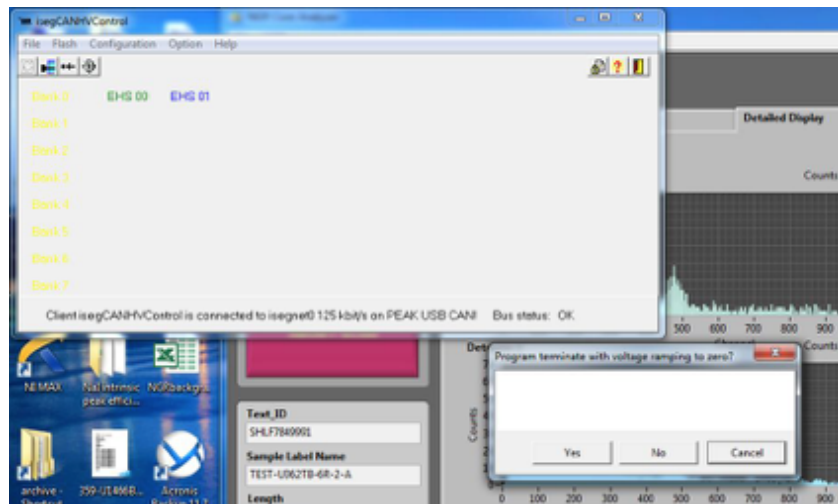

Figure 14. Program termination query.
- Exit the iSEG program. When the program asks if you wish to ramp the power down on all channels, select **Yes** (Figure 14).